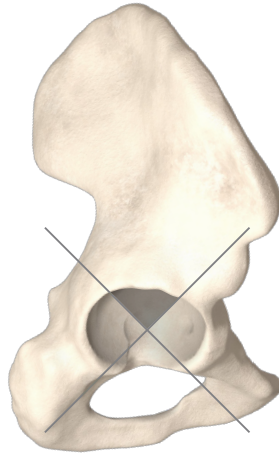

Fig. 11
The acetabular cluster shell and non-occluded shell in the Trinity™ range have three screw holes. In the cluster shell these holes are each pre-sealed with an occluder that must be removed before screw placement (either before the cup is implanted or when it is in situ) using the universal-joint (UJ) screwdriver*. These holes should be positioned appropriately in the posterior/superior quadrant, shown as the shaded region of Fig 11.